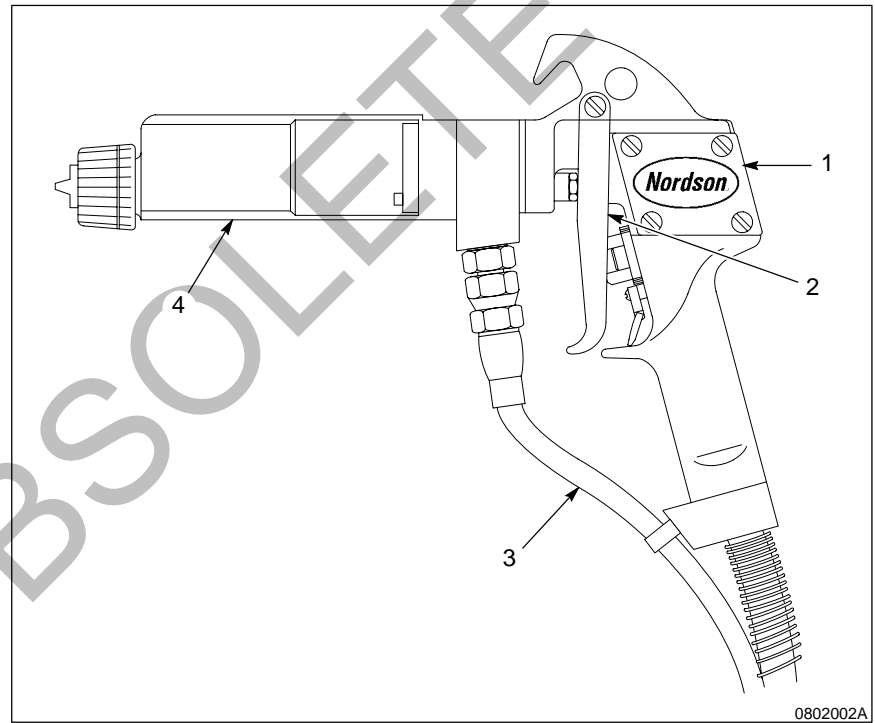

Fig. 2 Model C-1 gun
See Figure 2. The Model C-1 Airless Electrostatic Hand Gun is part of an airless coating system, available in a circulating and non-circulating versions. The gun body (1) is aluminum. The gun extension (4) is a non-conductive engineering plastic. The Model C-1 guns can spray at fluid pressures up to 103.4 bar (1500 psi).
See Figure 2. Pressurized coating material enters the Model C-1 gun (1) at the fluid inlet (3). When the operator pulls the gun trigger (2), the gun sprays the coating material and the power supply starts, passing an electrostatic charge to the coating material. When the operator releases the gun trigger in a non-circulating system, the gun stops spraying the coating material. When the operator releases the gun trigger in a circulating system, the coating material passes through the gun, through a circulation valve, and back to the pump. The operator can also drain the coating into a waste bucket.